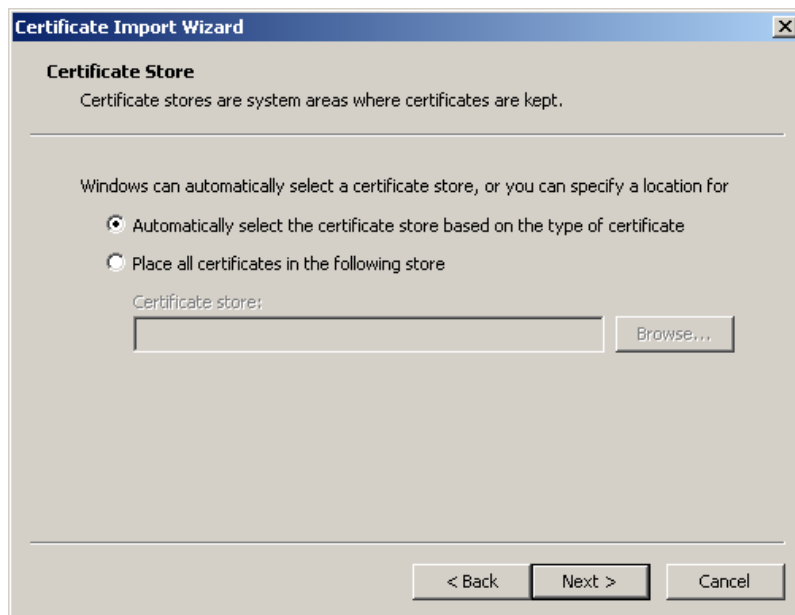

Figure 20. Certificate Store Menu
7. Select **Automatically select the certificate store based on the type of certificate** and select **Next** (see Figure 20).